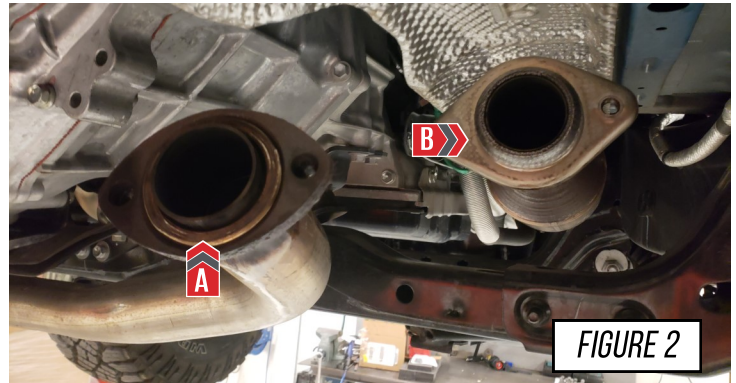

FIGURE 2
After removal of the Y-pipe, reinstall the OE crush gasket (A) and the OE donut gasket (B) shown in **Figure 2**.